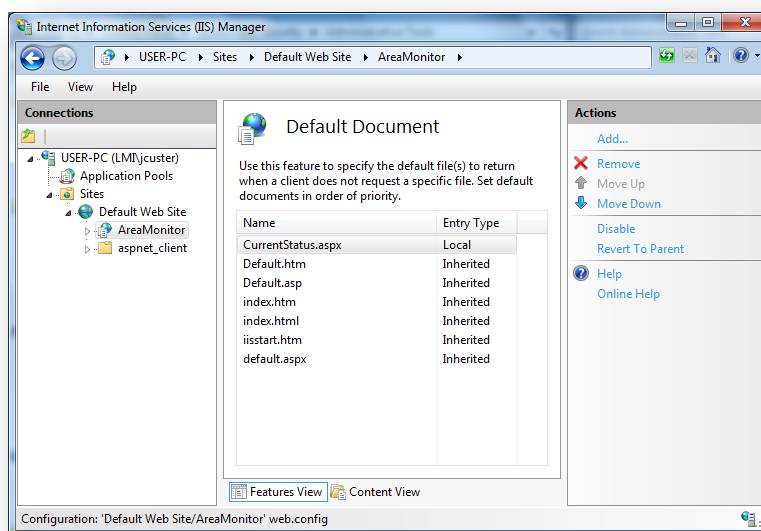

Figure 85 – Default Document for AreaMonitor application
11. Click “Finish”. See Figure 85.